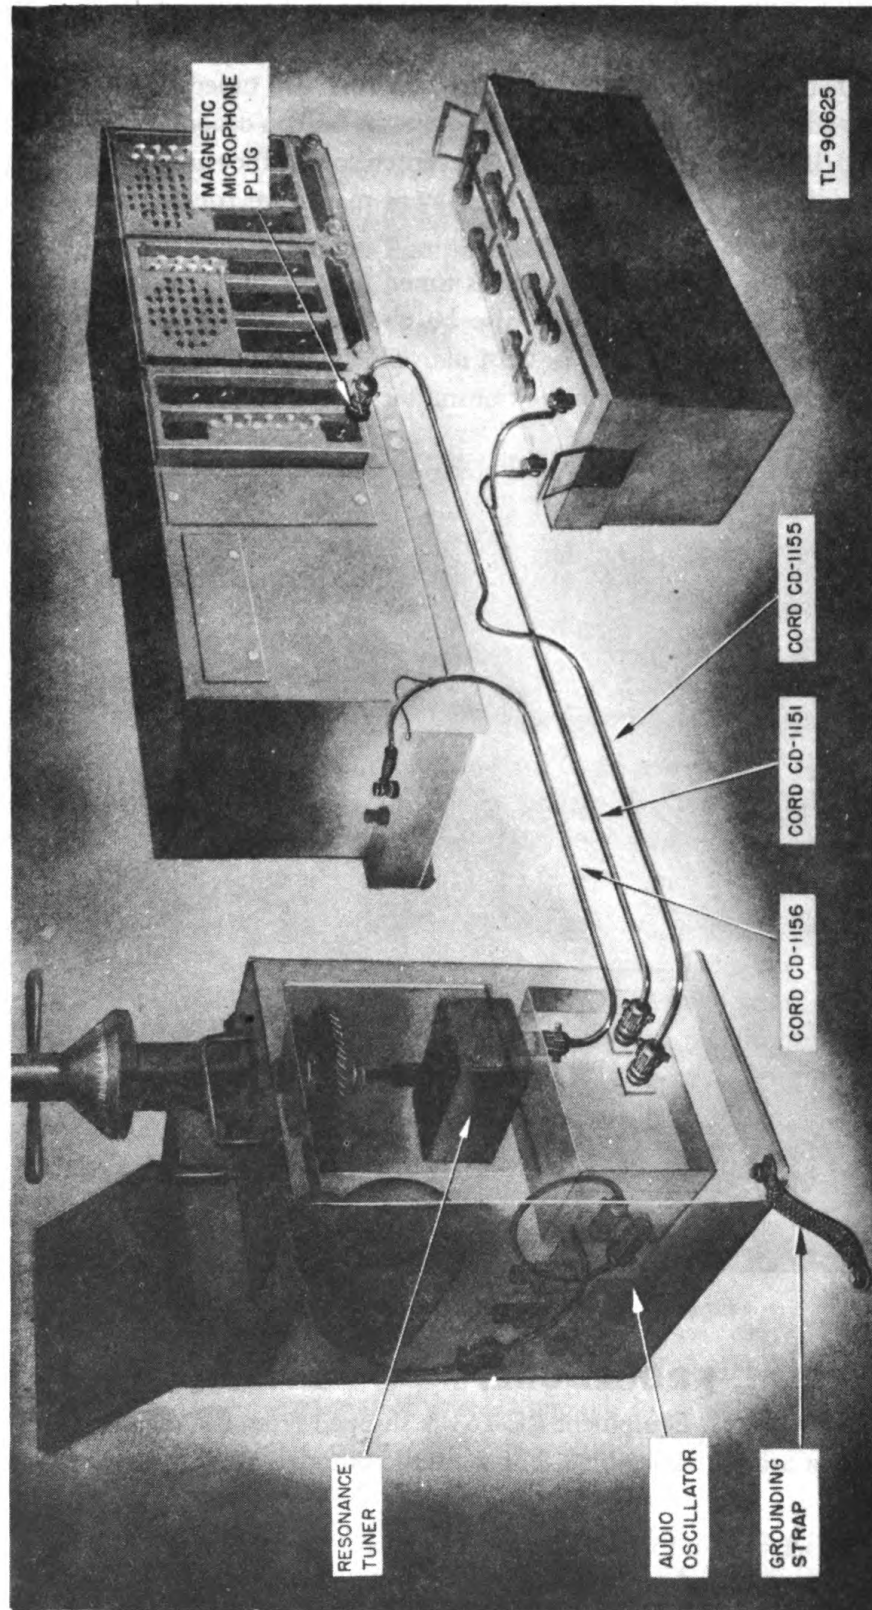

Figure 22. Cording diagram.
a. *Cord CD-1151 (fig. 22).* (1) Plug the 2-contact plug of Cord CD-1151 into the terminal marked POWER on the control panel of the antenna mount. Screw the locking ring tight.
(5) If a separate battery is used connect the black lug of Cord CD-1151 to the negative terminal of the battery and the red lug to the positive terminal.
b. Cord CD-1156. (1) Connect the plug end of Cord CD-1156 (r-f coaxial cable) to the resonance tuner through the large clearance hole in the top of the beacon control panel on the antenna mount (fig. 22).
(2) Connect the central conductor on the other end of Cord CD-1156 to the TR binding post on the end of the transmitter mounting and ground the coaxial cable sheath to the unmarked grounding screw next to the TR binding post (figs. 22 and 24).
a. Make all cable connections between the beacon antenna mount and the transmitter (fig. 22).